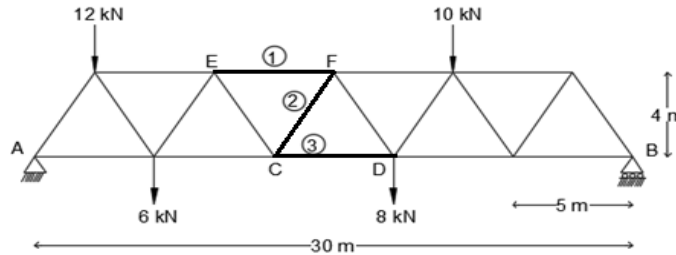

Fig.2
- (b) Find the forces in the numbered members of the loaded truss shown in **fig. 2** **7M**